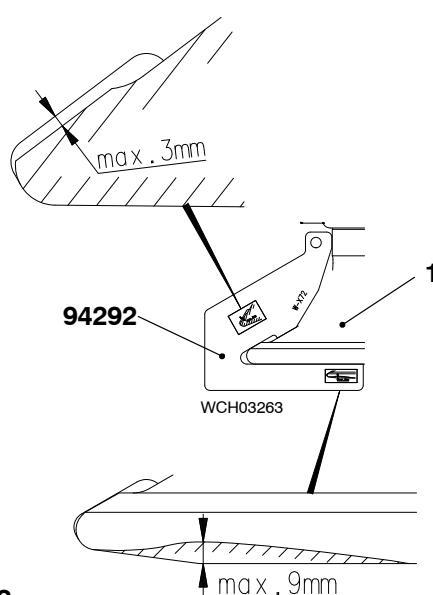

Fig. 2
- 4) Put the template 94292 on the valve head (1), see Fig. 2.